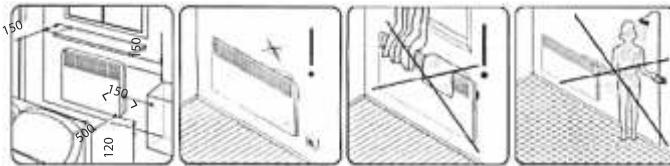

Fig. 2
Overall dimensions of the convector as per Fig.2 are given in Table 2.
**Wall mounting of the convector (Fig. 2, 3)** dimensions are given in mm.
3. In accordance with Fig. 2, 3 and table 2, determine the place of convector's installation observing minimum distances from objects and minimum distance from the floor.